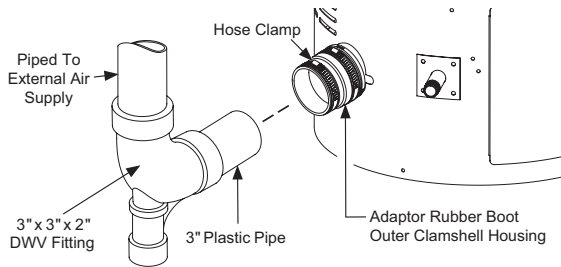

Figure 14. Air Inlet Piping
- Loosen the hose clamp at the adaptor rubber boot and slide the plastic piping into the adaptor rubber boot. With piping in place, tighten the hose clamp. Install a 3" x 3" x 2" drain/waste/vent fitting to trap airborne particulates. See Figure 14.